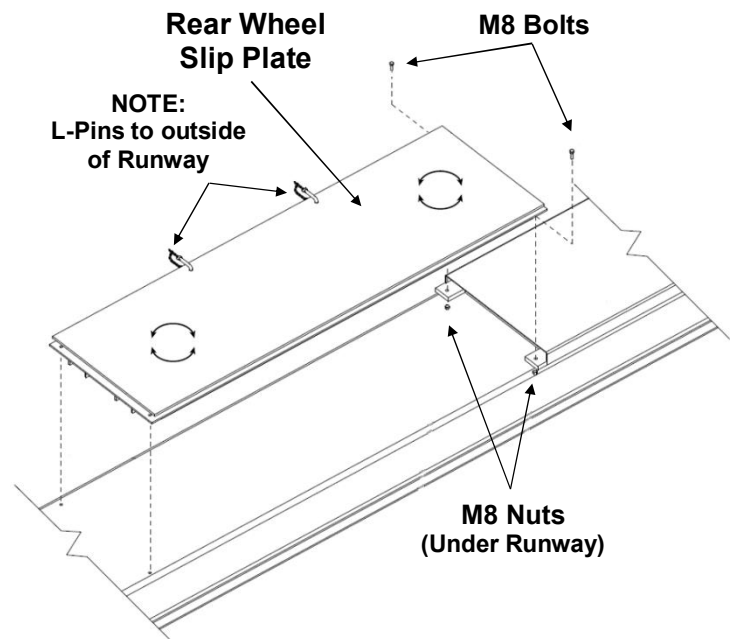

Fig. 6
- 7) Carefully, center and square the Rear Wheel Slip Plate (#6) on Runway - **Fig 6.** **NOTE: Slip Plate Tabs to be positioned above the top of the Long Spacer Tabs. Also Ensure Pins are positioned to the outside of Runway.**
- 8) Remove the Slip Plate L-Pins to gain access to the front holes by angling the front of the Slip Plate. Align the Slip Plate holes to the Tab Holes for the Long Spacer & Runway, secure using M8 Bolts & Nuts noted for - **Fig. 6.** **NOTE: DO NOT Bolt the back end of Slip Plate at this time.**
10) Insert L-Pins back in Slip Plate holes to secure - **Fig 6.**